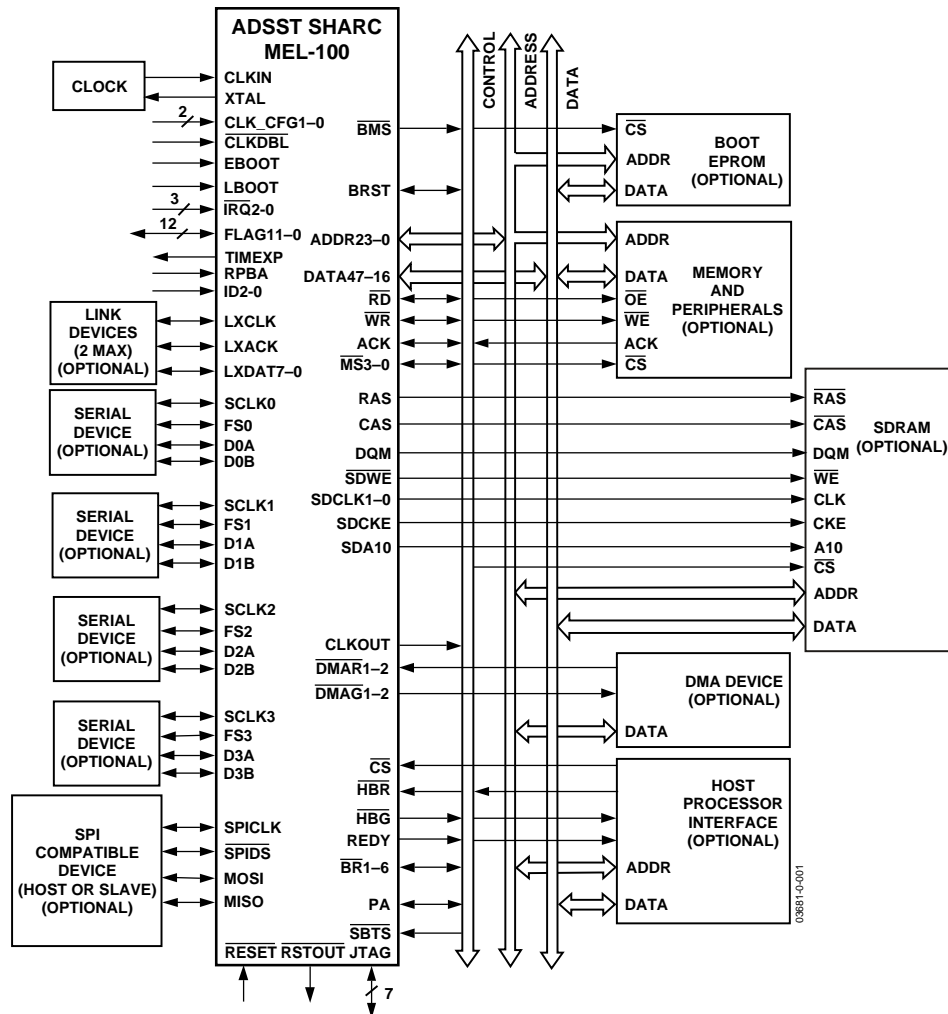
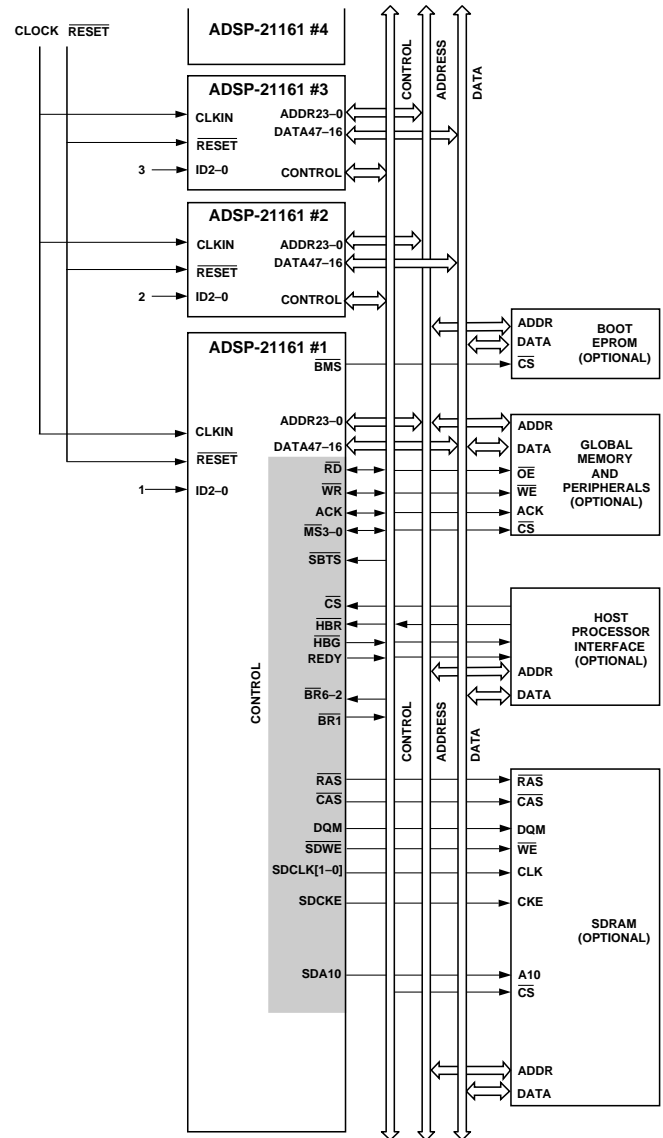

Figure 4. System Block Diagram
Figure 8. Shared Memory Multiprocessing System
Figure 4 shows a typical single-processor system. A multiprocessing system appears in Figure 8.
The SHARC Mel-100 features an enhanced Harvard architecture in which the data memory (DM) bus transfers data and the program memory (PM) bus transfers both instructions and data (see Figure 4). With the SHARC Mel-100’s separate program and data memory buses and on-chip instruction cache, the processor can simultaneously fetch four operands (two over each data bus) and an instruction (from the cache), all within a single cycle.